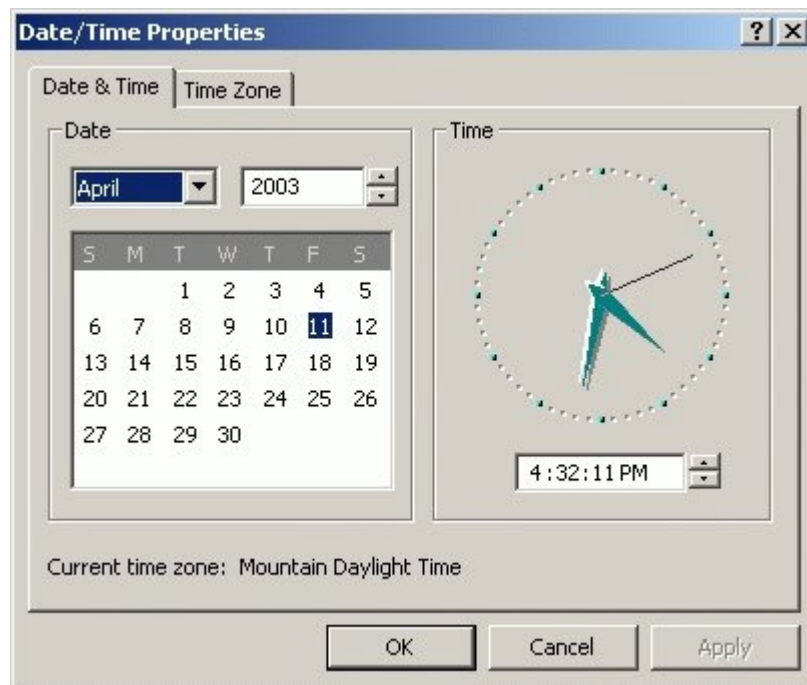

Figure 3.40. Date/Time Properties dialog box (Date & Time Tab)
2. Double-click the Date/Time icon. The Date/Time Properties dialog box displays with the Date & Time page open (Figure 3-40).